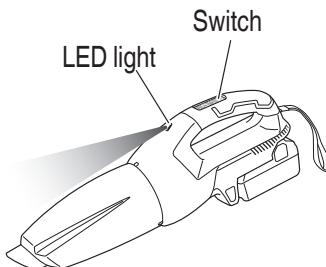

Fig. 19
4. Switch on the appliance (Fig. 19)